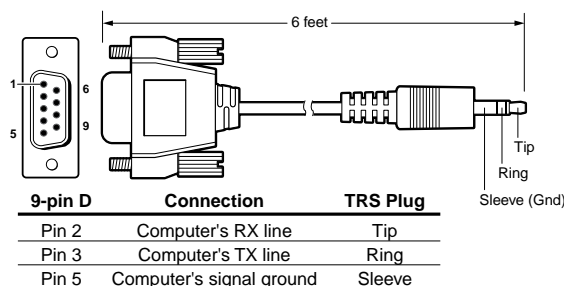

Figure 3-2 — Front 2.5 mm port configuration cable, part # 70-335-01
- ⑥ **Configuration port** — This 2.5 mm port (jack) can be used to configure the SMX during setup via RS-232, and has an independent protocol from the primary RS-232 port on the rear panel. Use the 2.5 mm configuration cable, part # 70-335-01 (see figure 3-2) for connection to your PC's serial port.